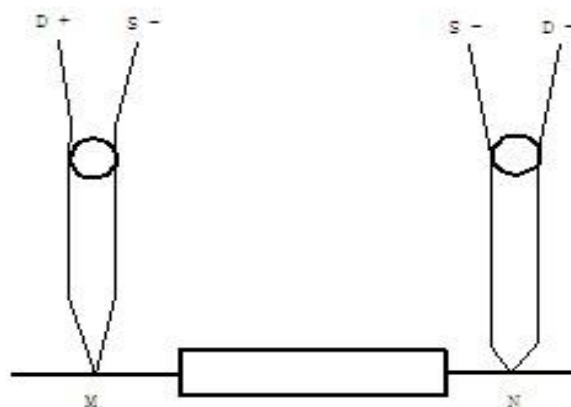

Fig.1
- 3.1 The instrument uses four-wire method to measure the resistance, and the connecting method is shown as Fig. 1. It indicates M and N when measuring the resistance, and unrelated with the wire resistance and contact resistance.